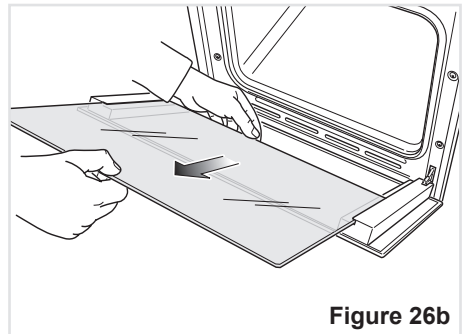

Figure 26b
- Gently pull out the inner pane of glass (Fig. 26b).